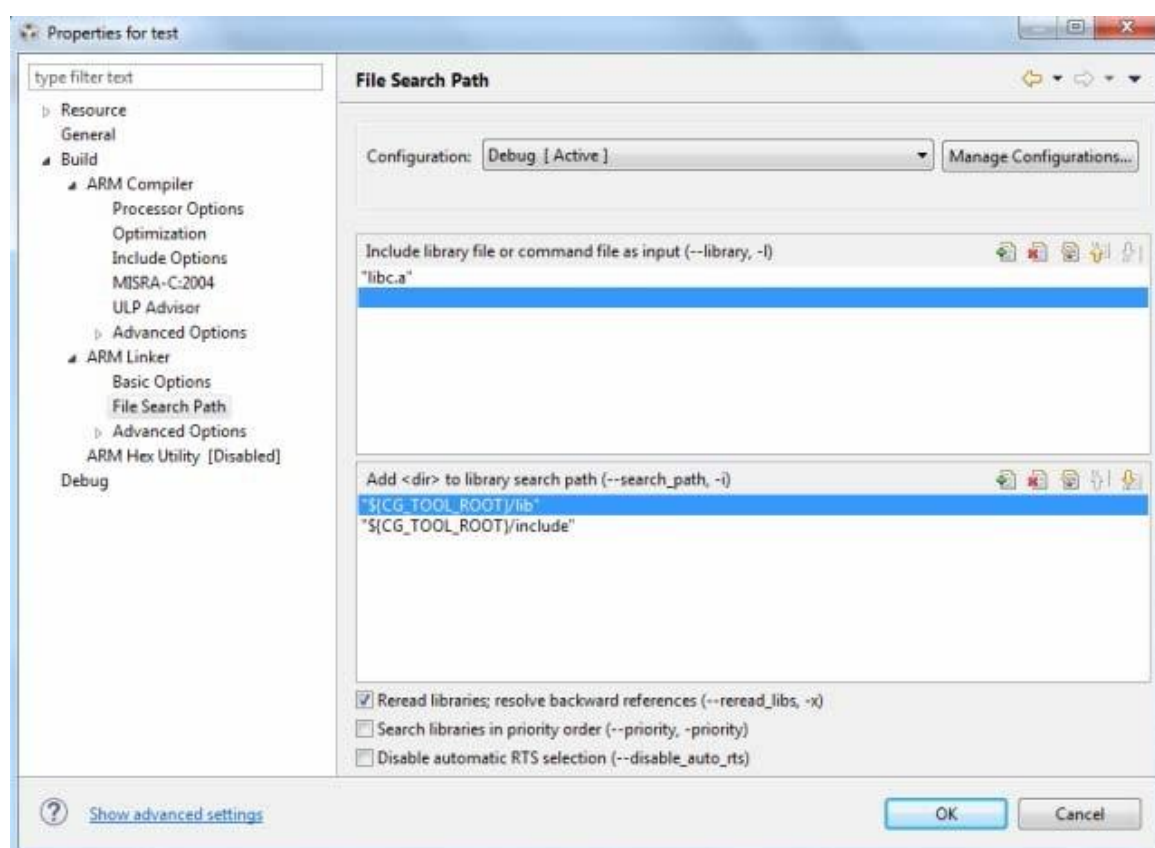

Figure 13 File Search Path
- c. Click on **File Search Path** under **ARM Linker** as shown in Figure 13.